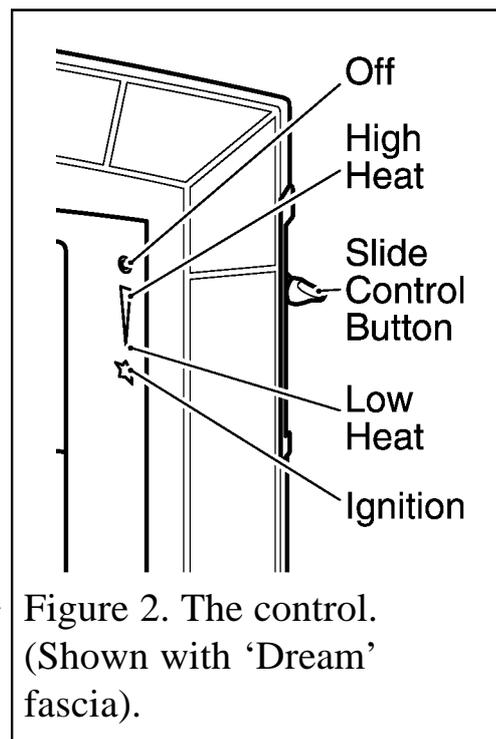

Figure 2. The control.
The slide control is shown in figure 2.
3. If low heat is required, release the button. The button will automatically spring up to the low heat position shown in figure 2 (See note i below).
4. For a higher heat level slide the button upwards. The burner flames and heat output will gradually increase until the button reaches the high heat position shown in figure 2. When the button reaches the high heat position you will feel a check to its movement.